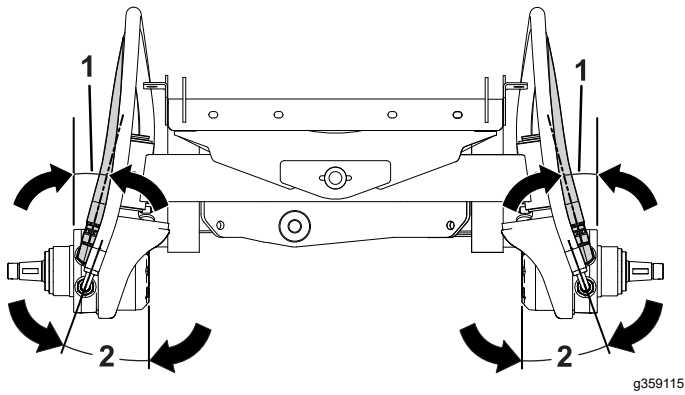

Figure 5
- Adjust the 90° elbow fitting to a 15° angle as shown in Figure 5.
- Adjust the 90° hose elbow to a 20° angle as shown in Figure 5.
Note: Ensure the angles are maintained as shown in Figure 5.